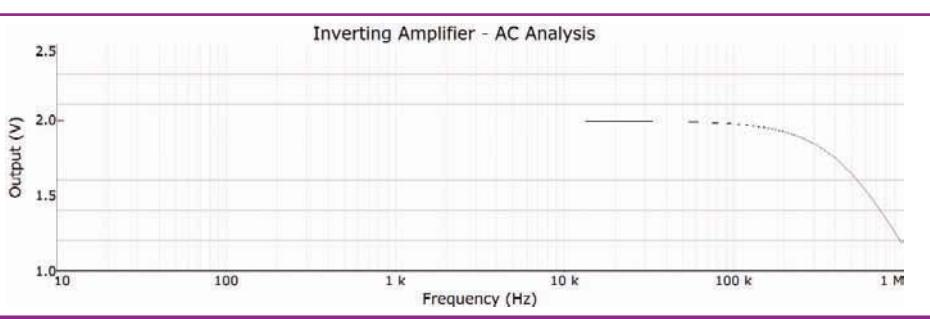

Figure 9: AC analysis of the inverting amplifier with feedback
Testing of the inverting amplifier with feedback is performed on the example of the circuit Figure 2. After entering it to the simulation program, an input signal of 0.4V should be chosen to give the desired 2V output; the set closed-loop gain A = -5 is typical for most audio applications. The obtained amplitude-frequency response is shown in **Figure 9**. Note that the circuit's closed-loop bandwidth extends up to 700kHz (at the level of -3dB) and the amplifier remains absolutely high-frequency (HF) stable not only in this case, but always, and with any amount of the applied negative feedback; the correction capacitor C₂ = 10pF guarantees that.